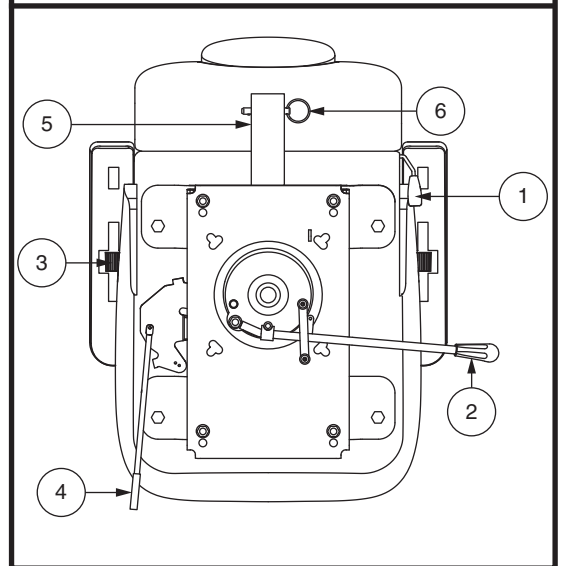

Figure 18. Seat Adjustments
To adjust your scooter's reclining seat, you can adjust the seatback angle with the seatback adjustment lever. See figure 18.
1. Pull upward on the seat rotation lever to disengage the seat. **See figure 18.**
Armrest angle of your scooter can be adjusted upward or downward by turning the adjustment dial. **See figure 18.**
1. Move the seat sliding lever located at the lower left side of the seat outward. **See figure 18.**
The rear-mounted accessory bracket allows you to attach a personal accessory such as a basket, walker holder, or oxygen tank to the back of your scooter. Utilize the detent pin to securely mount your item to the accessory bracket. **See figure 18.** See your authorized Provider for details.